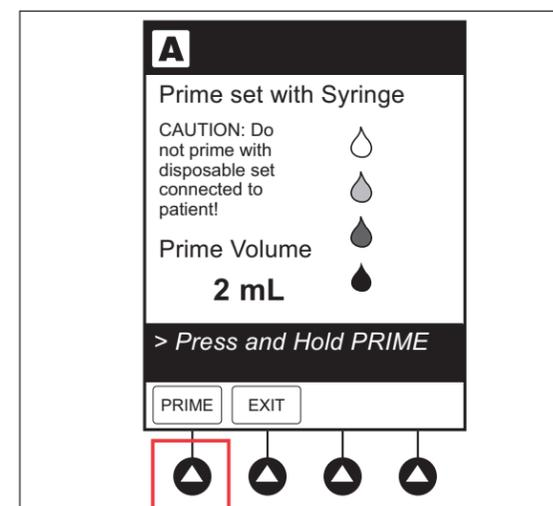

fig. 4
6. Press and hold **PRIME** until fluid is observed at the distal end of the tubing\* (fig. 4)